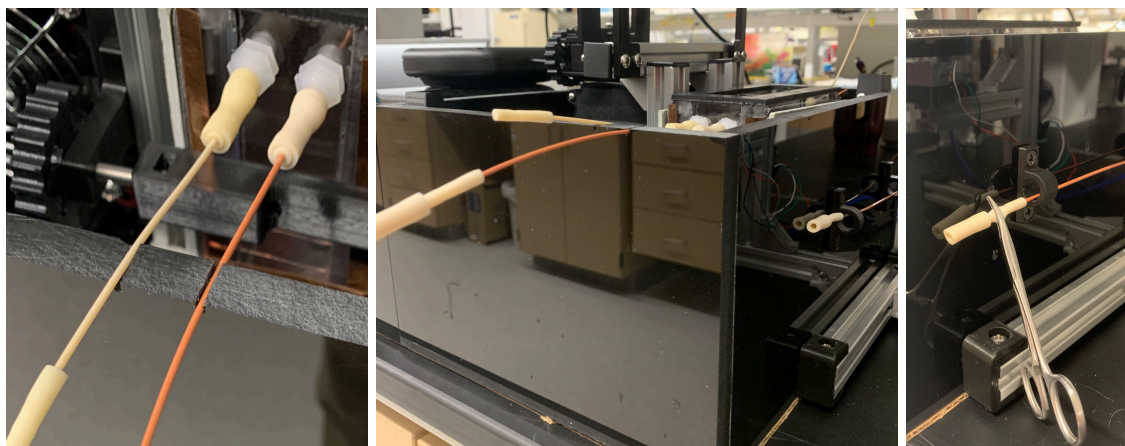

Fig. C3. The MRM left side's Test Compound Injection Assembly and Purge Tubing Assembly are placed in the groove of the BaroFuse Enclosure.
1. Place the MRM (with the four tubing assemblies attached) into the MRM Heater (Fig. C3 Left).
4. Feed the longer Test Compound Injection Assembly protruding from the back of the BaroFuse through the two tube guides on the side of the BaroFuse so the opening of the tubes faces forward (Fig. C3 Middle).
5. Clamp a hemostat on each of the Test Compound Injection Assemblies (Fig. C3 Right).